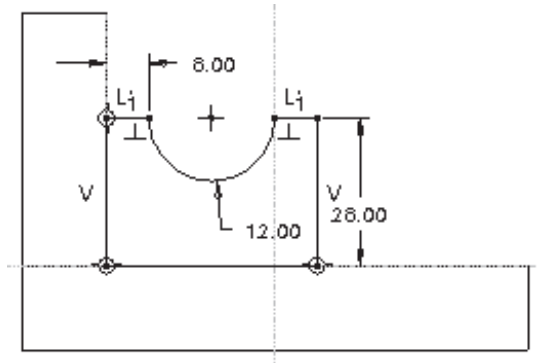

Figure 4-84 Sketch with dimensions and constraints
1. Draw the sketch using various sketcher tools, as shown in Figure 4-84.
2. The sketch is dimensioned automatically and some weak dimensions are assigned to it. Add the required constraints and modify the weak dimensions to the dimensions shown in Figure 4-84.